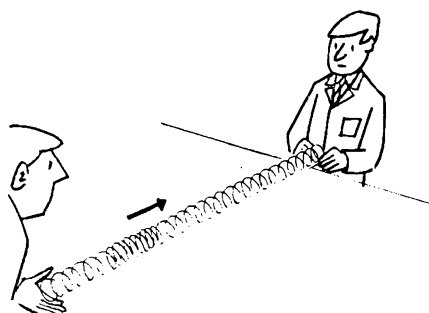

Fig. 334
- (j) Study the effect of passing a compression wave along a slinky resting on a smooth surface such as Formica. Hold both ends firmly as the wave moves to and fro (Fig. 334).